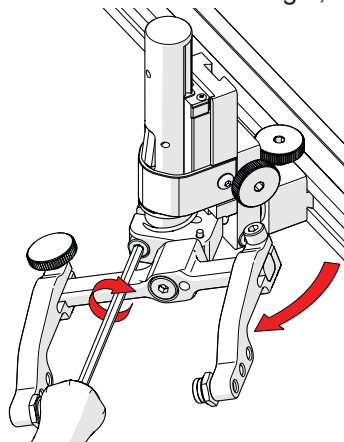

Fig. 63 - Rotate and tighten
3. Tighten the transverse adjustment screw (*Fig. 63*).